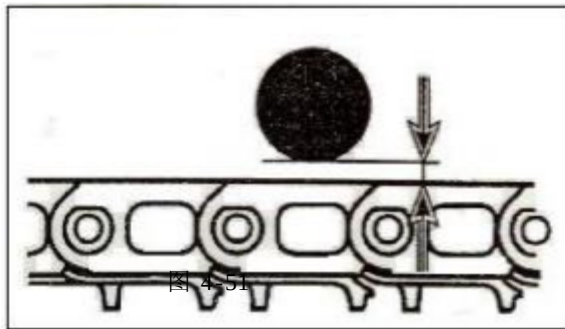

图 4-51
3. If the gap between the intermediate roller bearing surface and the upper plane of the track chain link is measured, it should be 20~35mm (see Figure 4-51). The rubber track (Figure 4-51) has a gap of 15-20mm.